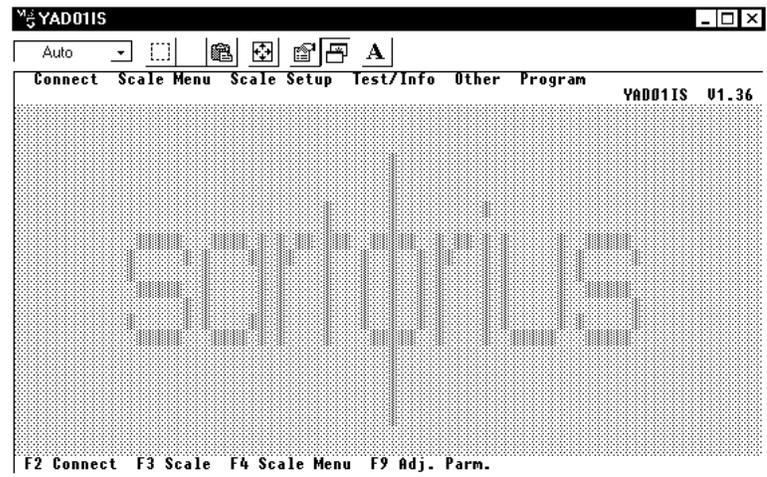

Figure 16
1. Insert the calibration and setup disk (part of Calibration Kit) into the computer. Close NT and Restart the computer. The Sartorius screen appears. See Figure 16.